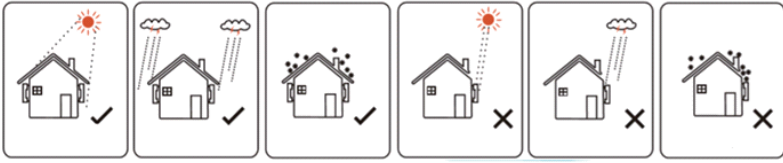

Figure 4-1 Recommended installation
4.1.1 Recommended installation location of the inverter, as shown in Figure 4-1: